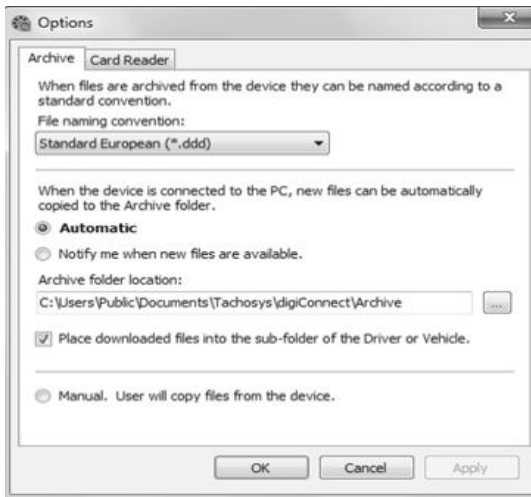

Fig 5.
1. Choose the file naming convention suitable for your analysis software in Fig 5.